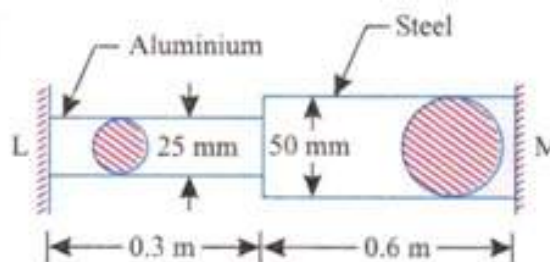

Figure 1
2. A composite bar made up of aluminium and steel is held between two supports as shown in Figure 1. The bars are stress – free at a temperature of 40°C . What will be the stresses in the two bars when the temperature is 20°C if (i) the supports are non-yielding, and (ii) the supports come nearer to each other by 0.1 mm. It can be assumed that the change of temperature is uniform all along the length of the bar.